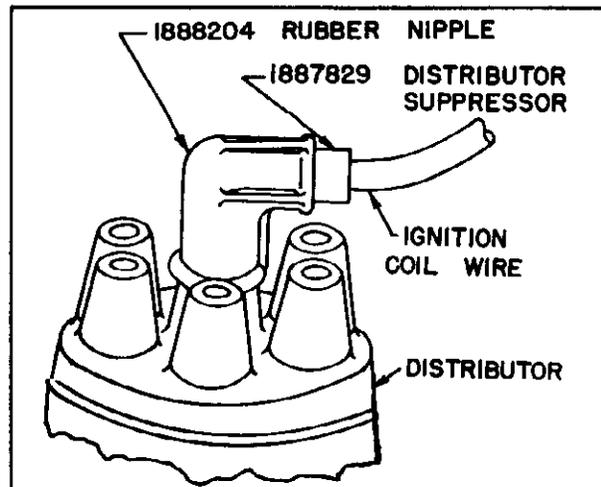

Figure 58
2. Install distributor suppressor and rubber nipple on high tension coil wire. (See Figure 58.)